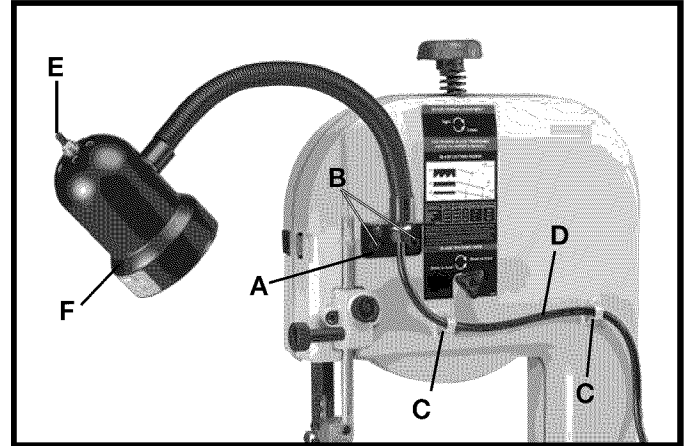

Fig. 13
1. Assemble the lamp bracket (A) Fig. 13, to the two holes located on the back top cover of the machine using the two M6 x 12mm screws and 1/4" lockwashers (B) as shown.
2. Peel backing from cord clamps (C) Fig. 13, and apply one clamp at each of the approximate locations shown. Make certain the lamp cord is re-routed out of the way, then secure cord (D) to cord clamps (C) as shown in Fig. 13.
3. The flexible lamp operates independently of the band saw. To turn the lamp on and off, rotate switch (E) Fig. 13. **⚠️WARNING: To reduce the risk of fire, use a 40 watt or less A-15 appliance light bulb (not supplied). A standard household light bulb should not be used.**